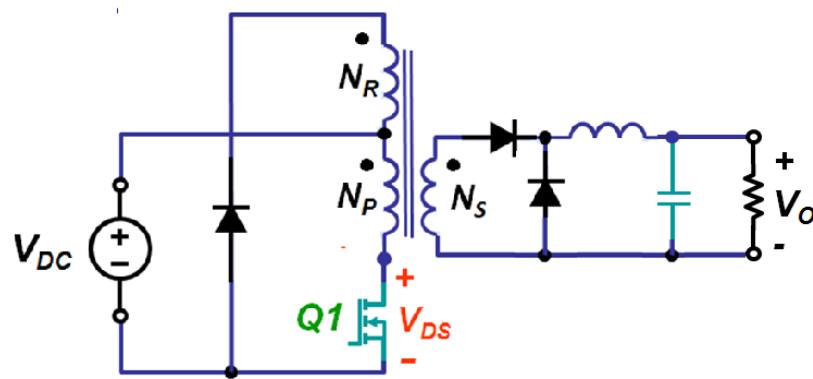

Figure Q14
14. In Figure Q14, what is the theoretical maximum voltage encountered by Mosfet Q1 in the converter, given that $V_{DC} = 50V$ and the turn ratio of $N_P:N_S:N_R = 3:2:1$?